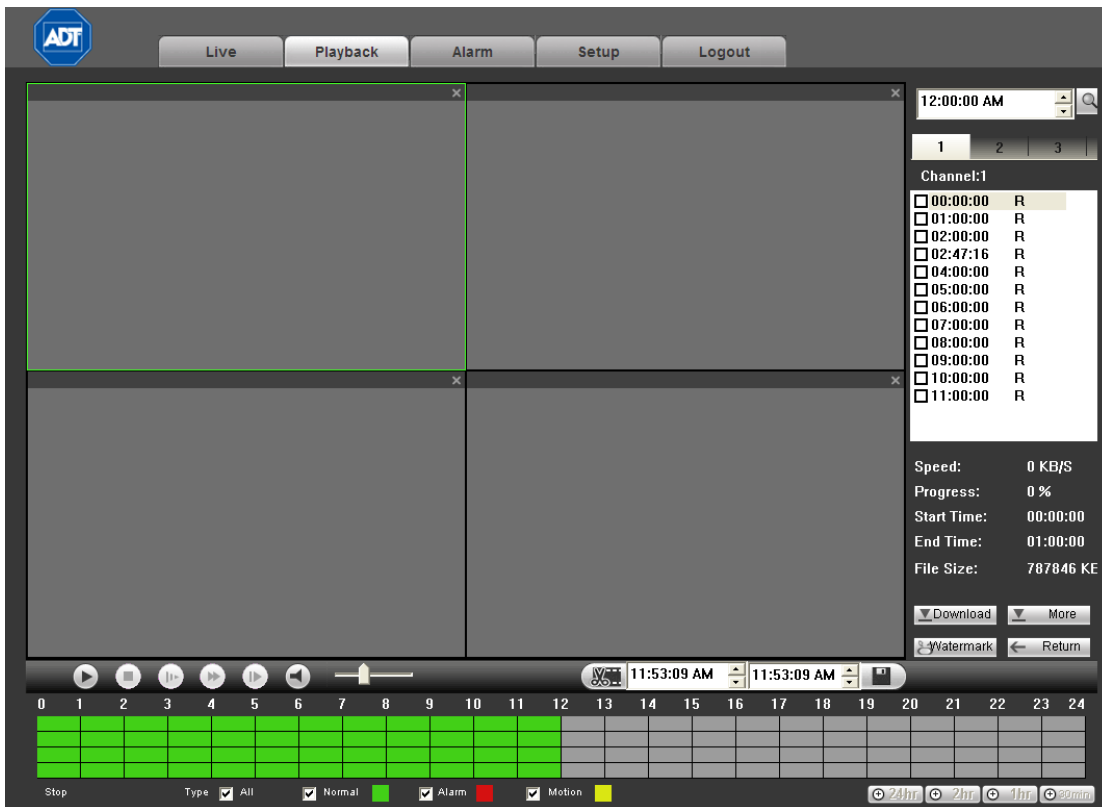

Figure 4-9
4. Click the **Search** button. The corresponding files in the list appear, as shown in Figure 4-9.